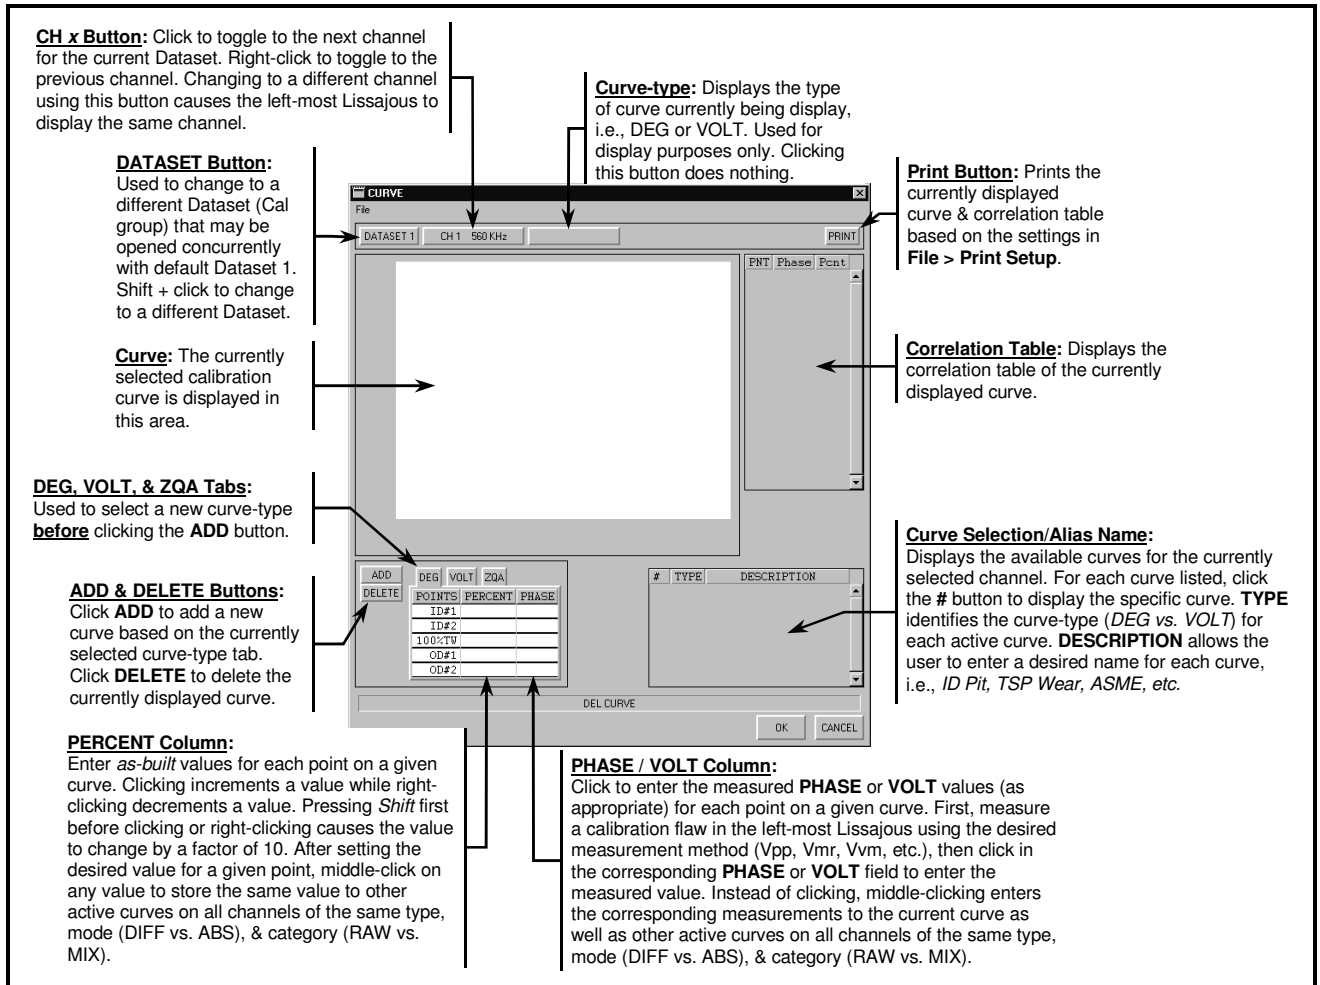

Figure 3-102. Curve Dialog
Clicking the **CURVE** button shown in Figure 3-40 causes the dialog shown in Figure 3-102 to appear. This dialog is used to create desired calibration curves. An unlimited number of curves as well as multiple curve-types may be created per channel. Review Figure 3-102 for a detailed overview of the **CURVE** dialog.
1. With a calibration standard data file loaded, click the **CURVE** button to bring up the **CURVE** dialog shown in Figure 3-102;
3. **Click** or **right-click** the **Channel Button** (see Figure 3-102) at the top of the **CURVE** dialog until the desired eddy current channel is displayed. Note: As the **Channel Button** is **clicked** through the available channels, the left-most Lissajous changes to the same channel. The **Channel Button** should be the only channel selection method used during calibration curve setup;